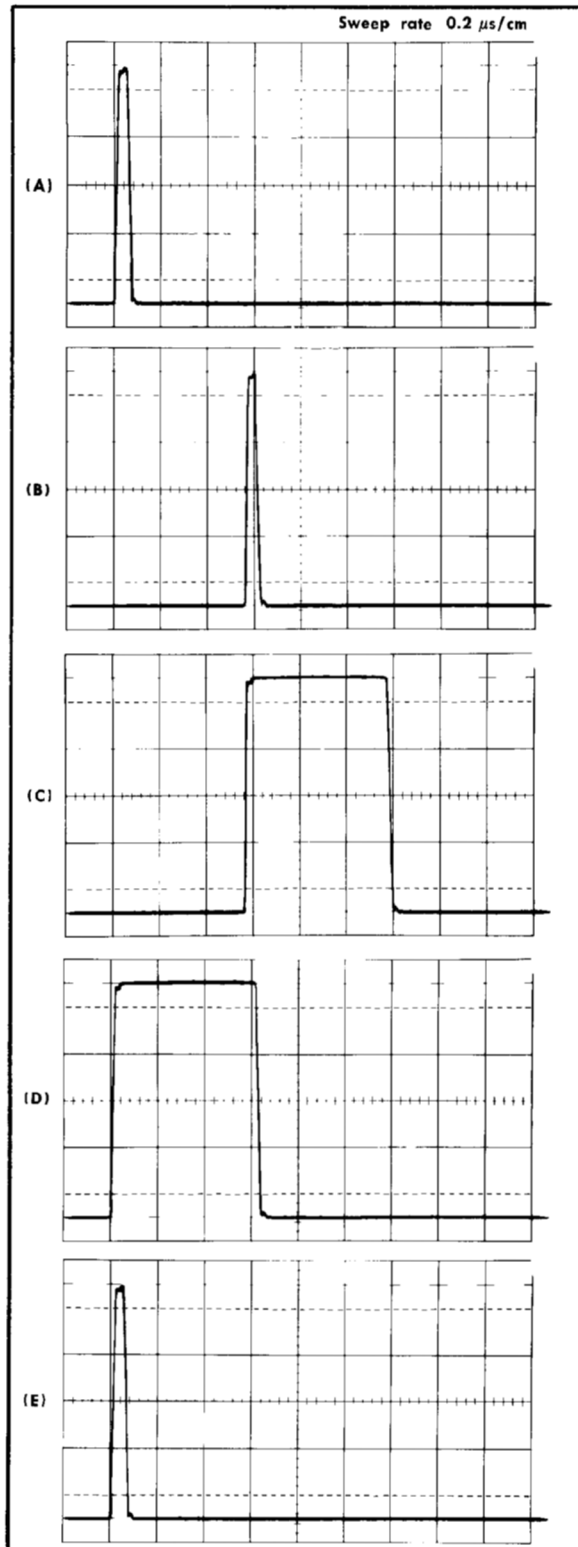

Fig. 5-6. Typical test oscilloscope displays obtained during check of width and delay trigger sensitivity adjustments (step 6e).
- e. Observe the test oscilloscope display (see Fig. 5-6) while performing the following four operations:
1. Turn the DELAY OR BURST DURATION VARIABLE control slowly clockwise to the fully clockwise position (B).
2. Turn the WIDTH VARIABLE control slowly clockwise to the fully clockwise position (C).
3. Turn the DELAY OR BURST DURATION VARIABLE control slowly counterclockwise back to the CAL position (D).
4. Turn the WIDTH VARIABLE control slowly counterclockwise back to the CAL position (E).